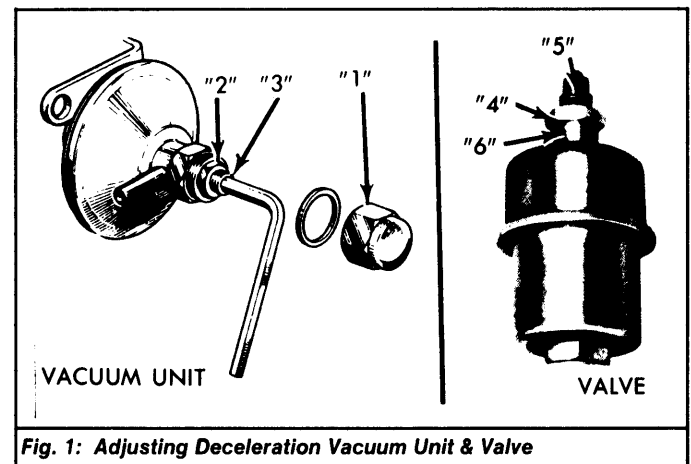

Fig. 1: Adjusting Deceleration Vacuum Unit & Valve
3) Remove domed nut "1". See Fig. 1. Loosen lock nut "2" and start engine. Engine speed should be 1450-1500 RPM. If engine speed is not correct, adjust screw "3" to specification, using a 3 mm Allen wrench.